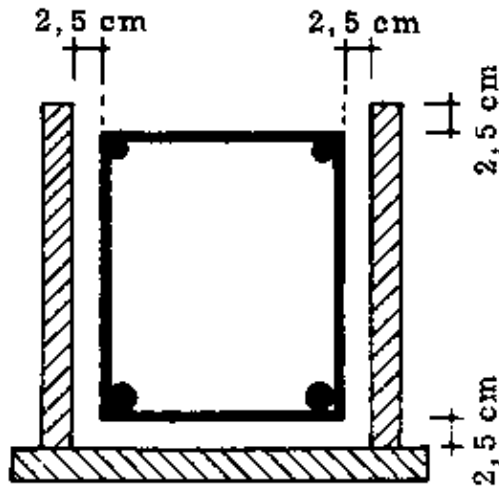

Fig. 2 CLEAR COVER
– CONCRETE COVER: Concrete cover, also called clear cover, is the thickness of concrete between the surface of the concrete and the nearest reinforcement bar enclosed in the concrete (Fig. 2).